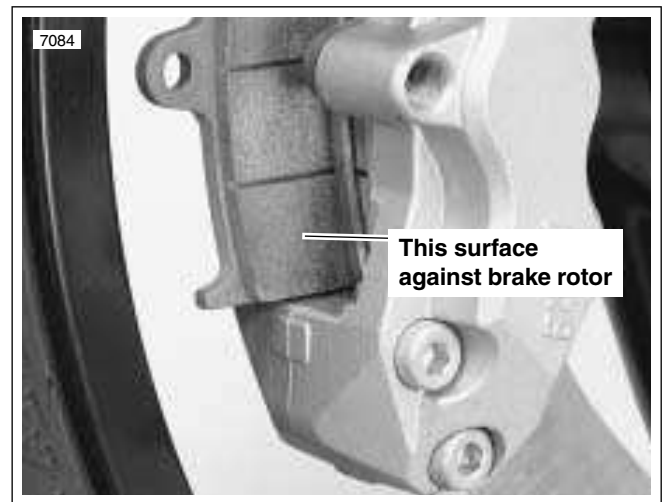

Figure 2-33. Installing Brake Pads
- a. See Figure 2-33. Insert brake pads from behind.